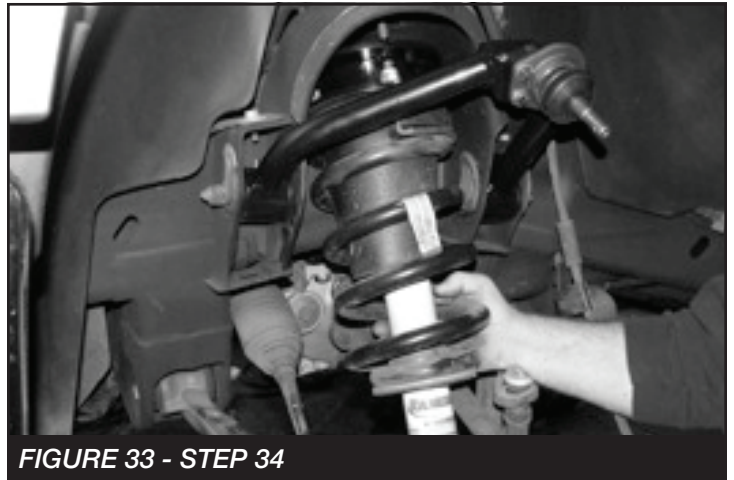

FIGURE 33 - STEP 34
34. Locate the three 7/16" nylock nuts and install the coil over into the upper shock mount. Leave loose at this time. **SEE FIGURE 33**